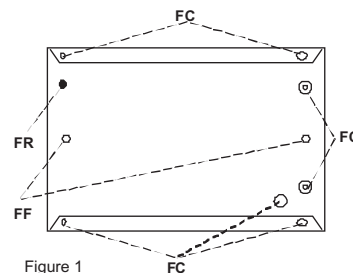

Figure 1
- The two screw holes (FF) can be used to mount the detector to a wall or onto a base (fig.1); the electronic card must first be removed by unscrewing the screw on the bottom right corner. (see par.13).
- The pre-drilled holes (FC) are used to run the power wiring (see par.12.0).